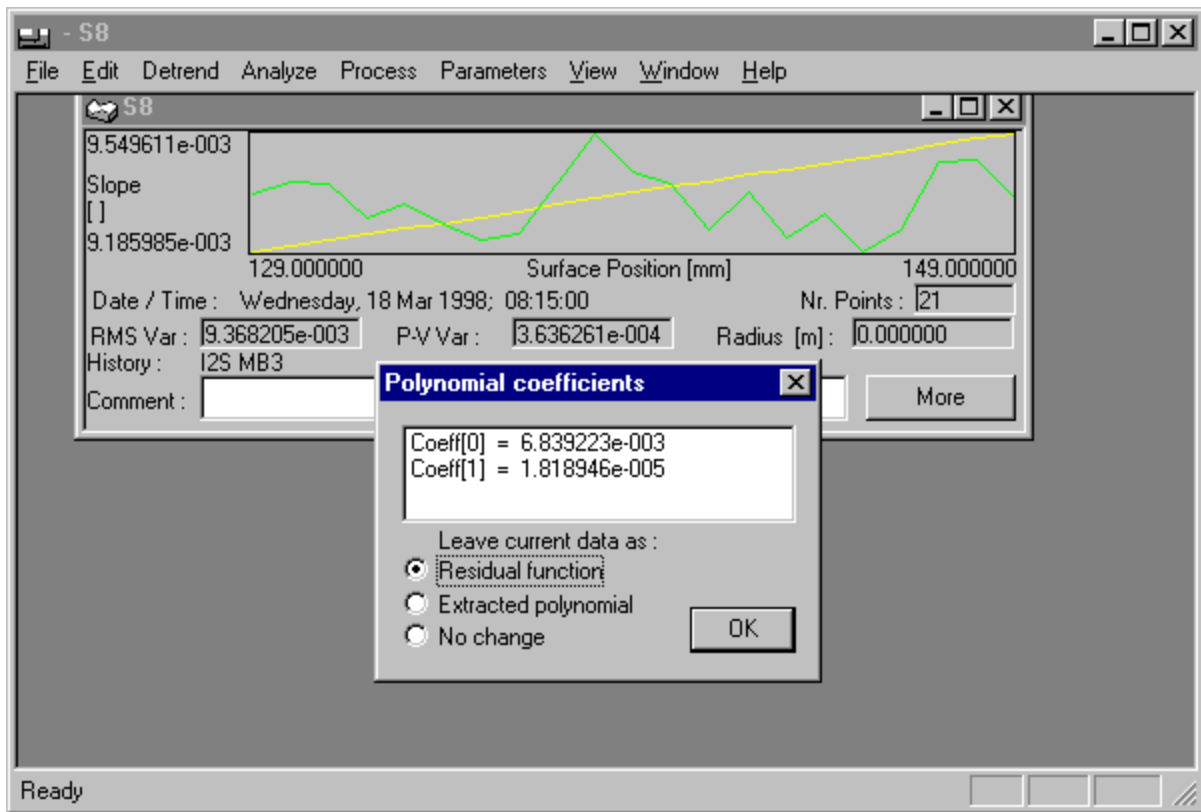

Figure 4.5 Detrending the slope function by removing average curvature.
4.7.2 Click on "Residual function"; click on "OK". See Figure 4.5.